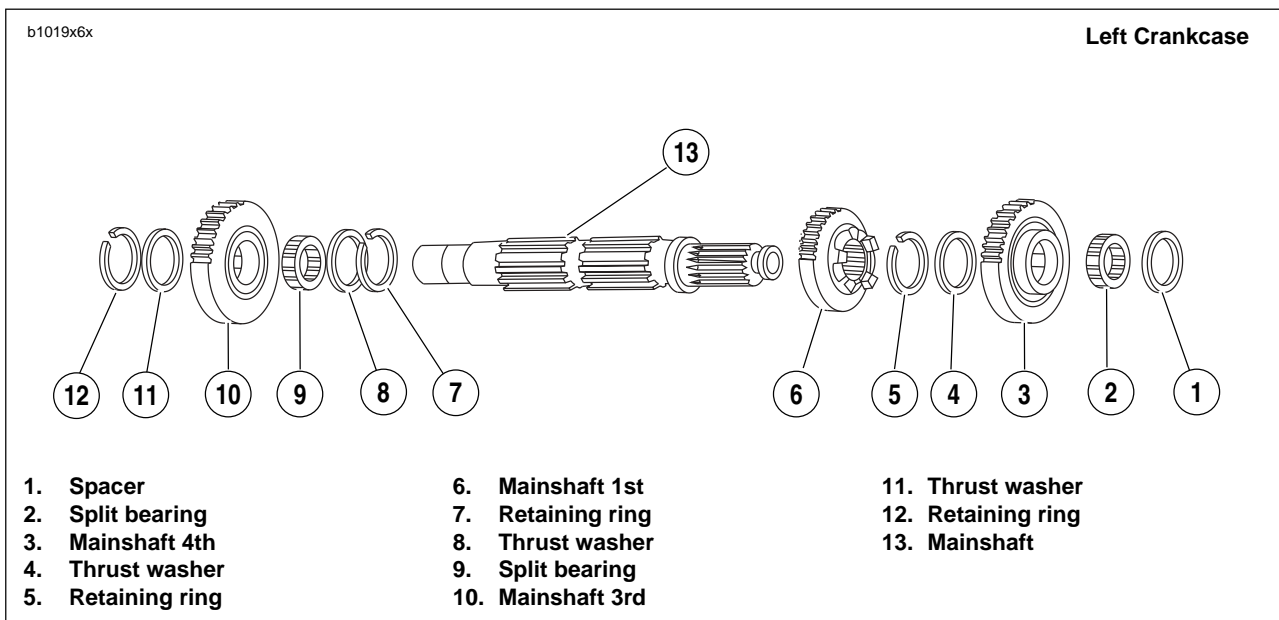

Figure 6-63. Transmission Mainshaft Assembly Once Removed from Left Crankcase/Disassembly
1. See Figure 6-63. Remove spacer (1), mainshaft 4th gear (3), split bearing (2) and thrust washer (4) from the threaded end of the mainshaft.
2. On the mainshaft, between mainshaft 1st gear (6) and mainshaft 3rd gear (10), use RETAINING RING PLIERS (Part No. J-5586) to expand retaining ring (7) and move next to mainshaft 1st gear along with thrust washer (8).
- a. Move mainshaft 3rd gear (10) as far as possible toward mainshaft 1st gear (6).
- b. Expand retaining ring (12) at opposite side of mainshaft 3rd gear (10) and slide off end of mainshaft with thrust washer (11).
- c. Remove mainshaft 3rd gear (10) and its split bearing (9).
3. Slide thrust washer (8) off end of mainshaft.
4. Expand retaining ring (7), which is next to mainshaft 1st gear (6), and slide off end of shaft.
5. Remove mainshaft 1st gear (6).
6. Expand retaining ring (5) and remove.